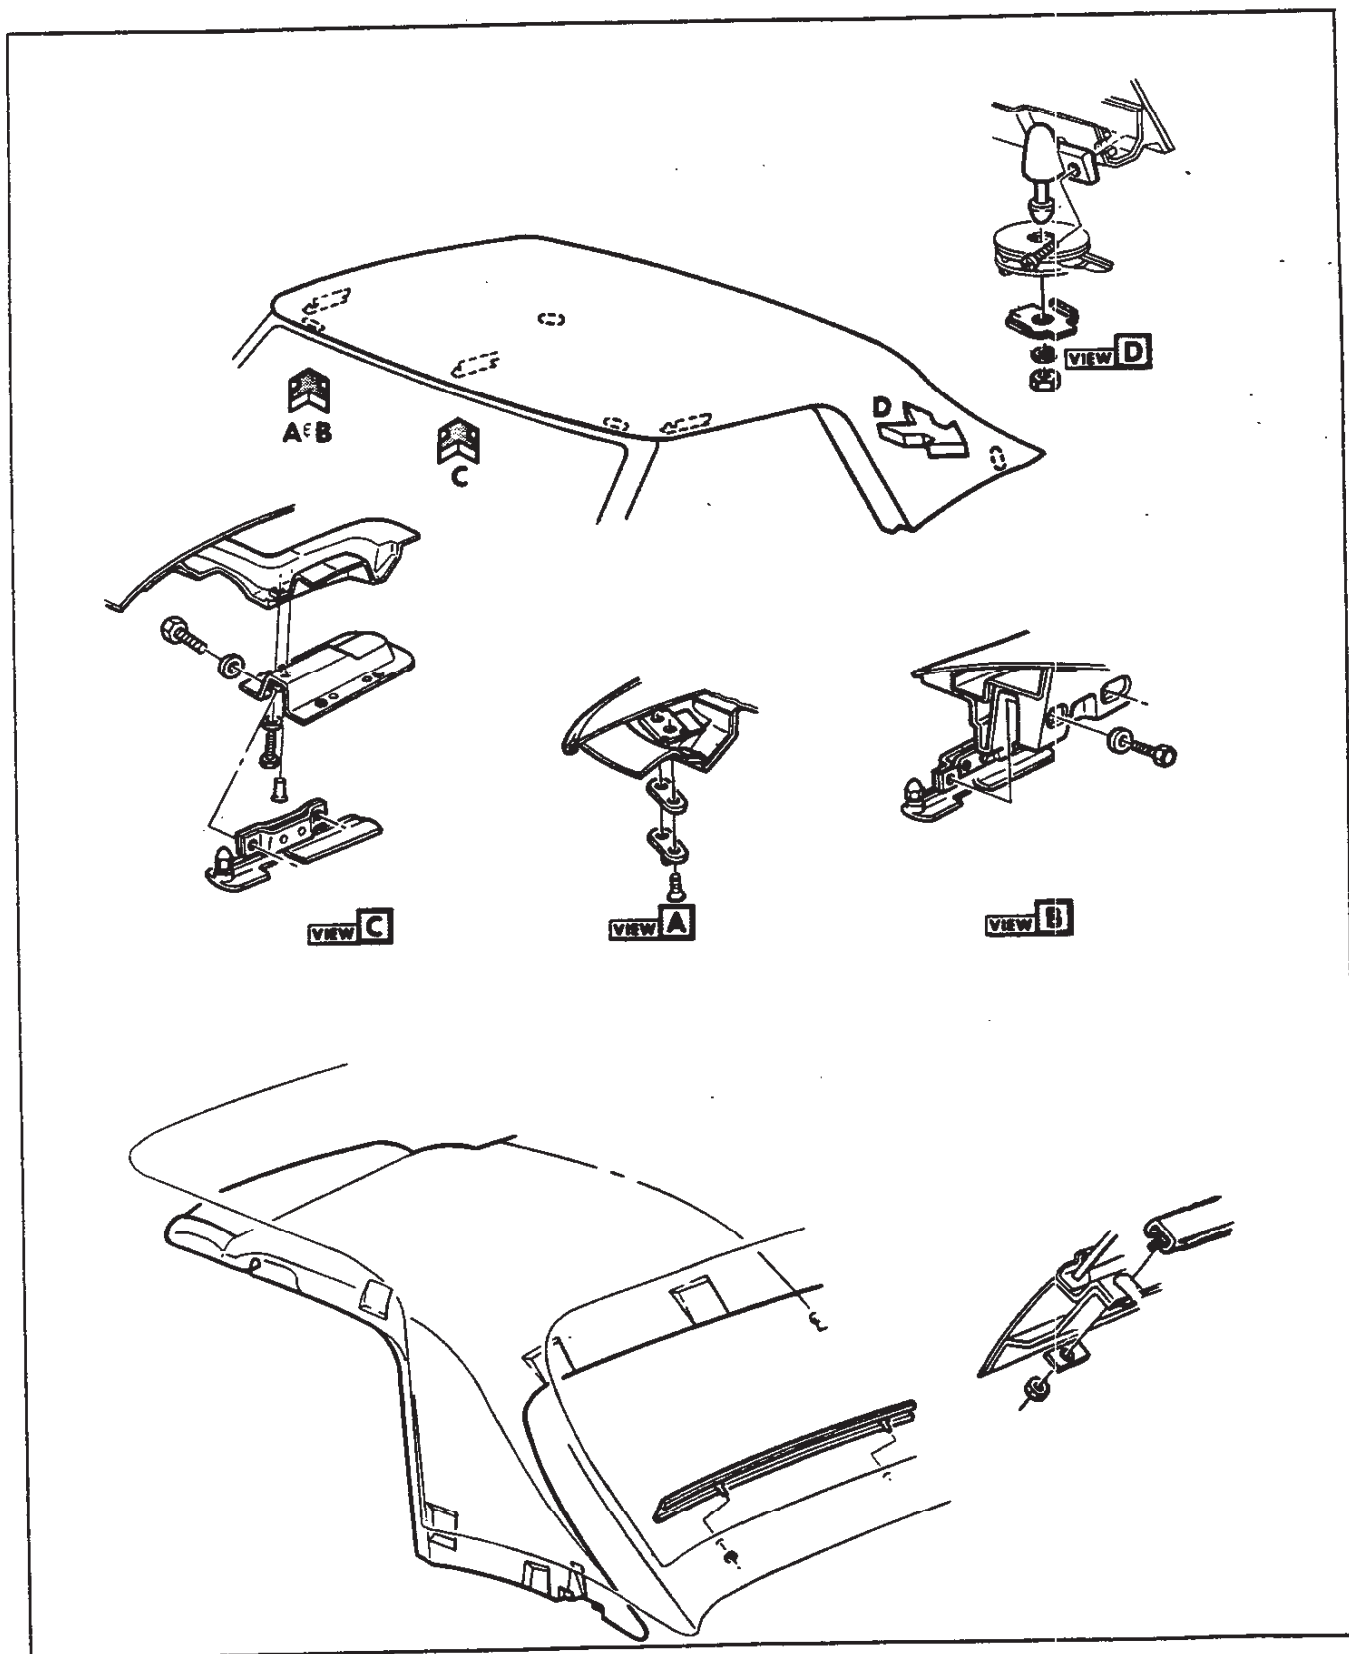

Fig. 61—Top Attachments and Headlining (Convertible Hardtop)
Figure 61 illustrates location and installation of guides and lock mechanisms. With headlining removed as outlined in this section, to adjust left and right hand locks fore and aft, mark original position, loosen two (2) mounting bolts, and move in desired direction. Make certain that lock is engaged in serrations before tightening mounting screws.